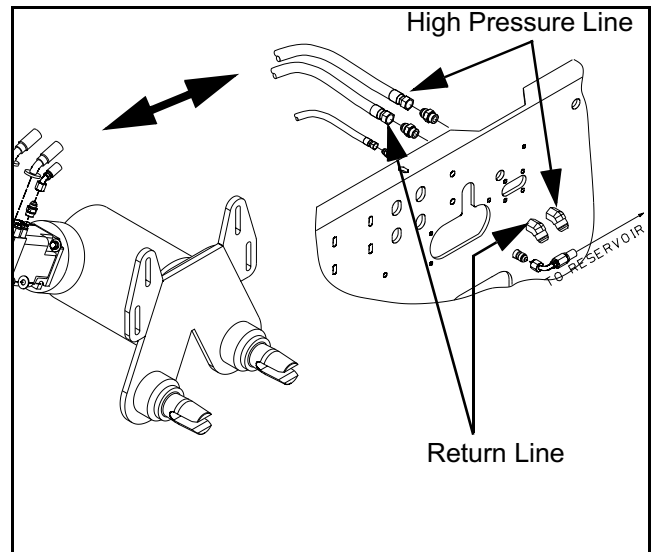

Figure 5 - 2 Plug High Pressure Line
- 1) Disconnect the high pressure line at the bulkhead fitting and plug the line. (Figure 5 - 2)
- 2) Install two 10,000 PSI pressure gauges in the high pressure gauge ports. (Figure 5 - 3)